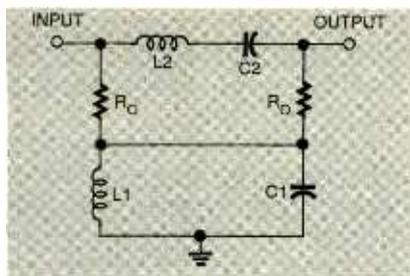

Fig. 10. Here's a practical bandpass diplexer design intended for use with mixers. Values are calculated using the equations in the text.
**Diplexer Design.** Figure 10 shows a practical bandpass diplexer design intended for use with mixers. The values of the  $R_0$  resistors is the system design impedance (50 ohms in most cases). The values of  $L1$ ,  $L2$ ,  $C1$ , and  $C2$  are determined by the center frequency ( $f_0$ ) of the desired pass band. The  $Q$  of the filter is  $f_0$  divided by the necessary bandwidth (BW). The values of these components for